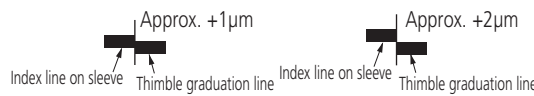

Fig. 3
2. The width of the graduation lines represent approximately  $2\mu\text{m}$  to aid in reading to the nearest  $1\mu\text{m}$ . **(Fig. 3)**